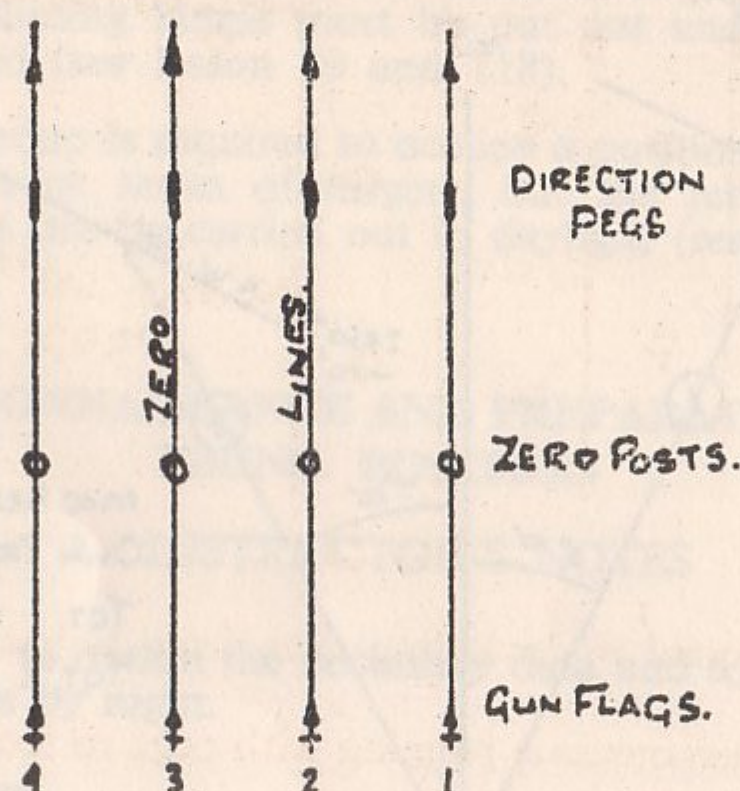

FIG 40
- (d) Mount the director over each of the other gun flags in turn and with dials and drums at zero lay the hair line on the pivot gun flag and lock the head. Apply the angle measured previously to the director and get an assistant to plant out first a zero post and then a direction peg accurately in line with the hairline. The zero line for each gun will then be pegged as in Fig 40 below.